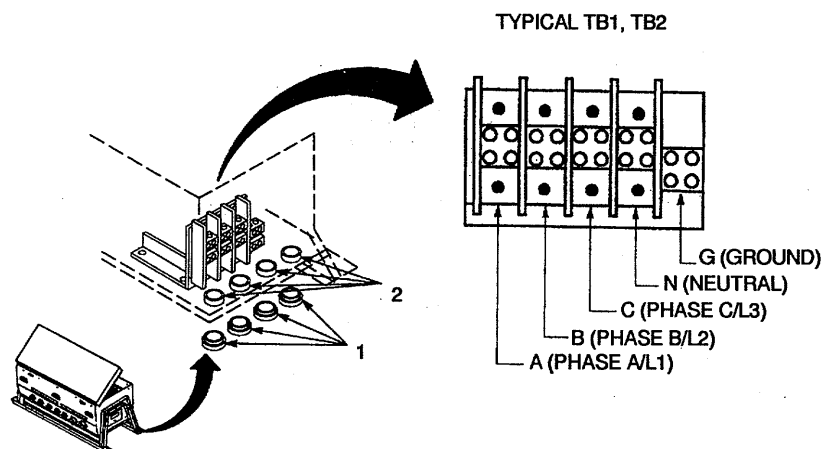

Figure 2-4. Power Connection Terminal.
2.4.7.3 Open access panel and remove by sliding off of hinges. Remove dust covers (1, Figure 2-4) and stow inside access cover.